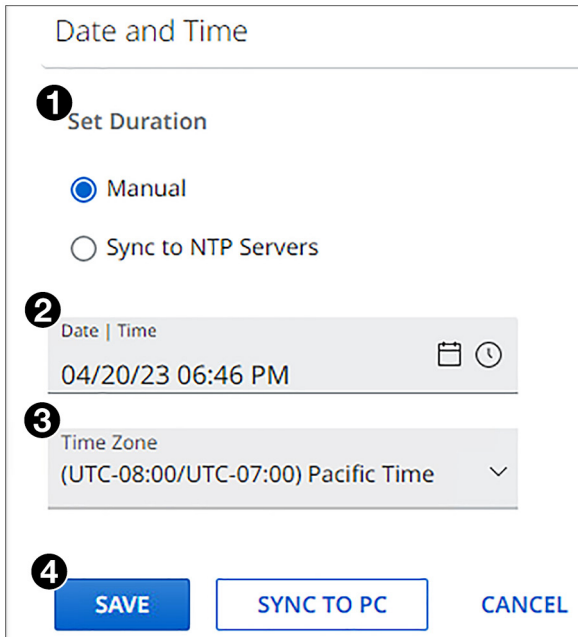
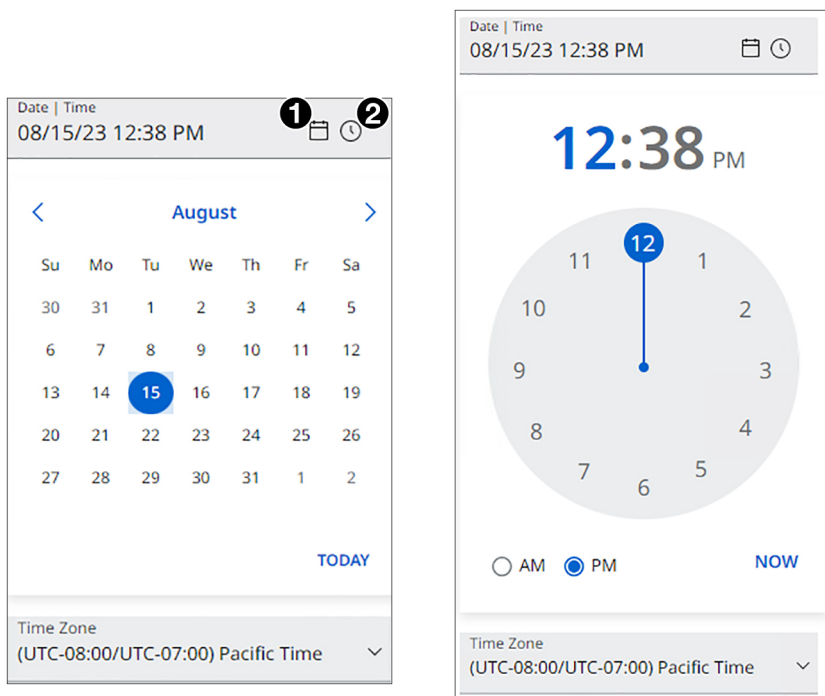

Figure 31. Date and Time Editing Panel
Figure 32. Datepicker and Timepicker Screens
- **Date and Time** — In the **Date | Time** field (see figure 31, **1**), either click on the hour and minute text fields and type in the time, or click the **Datepicker** (see figure 32, **1**) or the **Timepicker** (**2**) icon to display the following panels:
- **Time Zone** — In the **Timezone** field, select the desired time zone for the UCS from the drop-down menu (see figure 31, 3 on page 52).